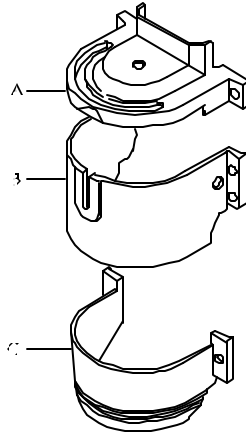

Figure 2
4. Using a 3 mm Allen Wrench **remove** 6 screws and B and C Sewing Head Covers. See *Figure 2*.